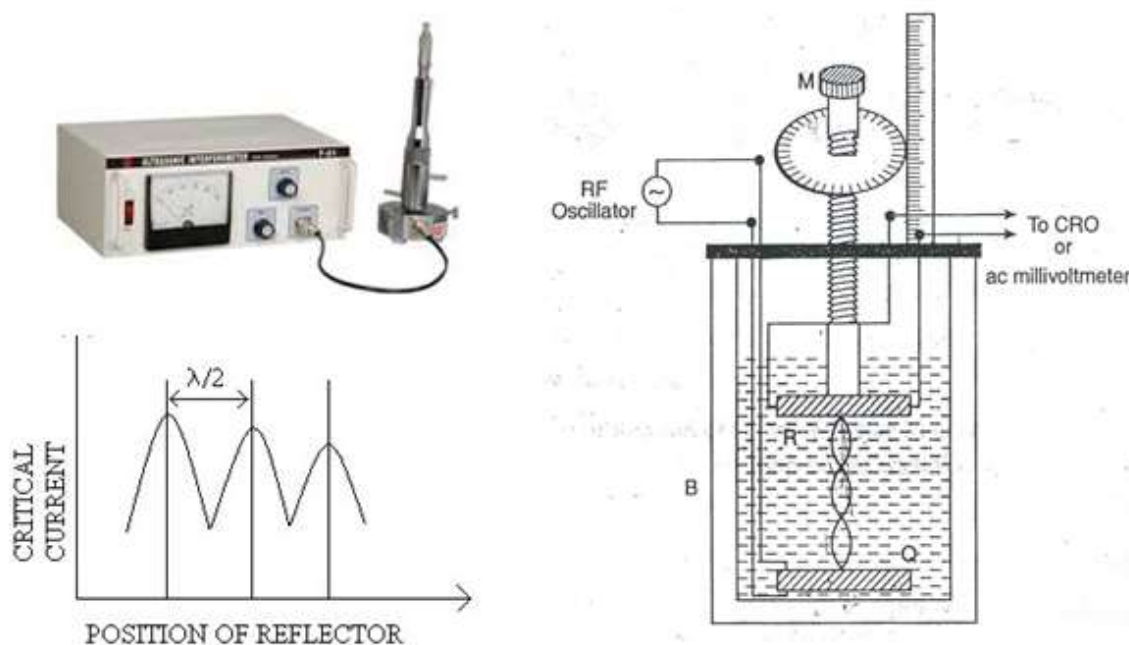

Figure 1
A quartz crystal Q connected to an RF oscillator, is placed at the bottom of a vessel (B) containing the liquid (Fig.1). Ultrasonic waves generated by the crystal, move up the liquid column in the vessel and are reflected from a similar crystal (R) placed above Q and are parallel to it inside the liquid. The position of the crystal R can be altered by the micrometer screw M. Stationary waves are formed inside the liquid due to the superposition of the incident and the reflected waves. The oscillator transfers a maximum energy to the reflecting crystal R when it is placed at a node of the stationary waves. Due to piezoelectric effect, this gives a maximum voltage between the ends of R, i.e., in a direction normal to the direction of wave propagation. The nodal positions are thus identified by observing this maximum voltage in a sensitive ac microammeter or on a CRO, acting as the detector. The distance 'd' between two consecutive nodal positions can be determined by the micrometer. Here $d = \lambda / 2$ and so
1. Set up the apparatus as shown in Fig.1 Here B is the vessel containing the liquid, Q and R are two identical quartz crystals, and M is the micrometer. Position the reflecting crystal R at a convenient maximum height from Q inside the liquid and note the reading of the micrometer. Calculate the least count of the micrometer screw.